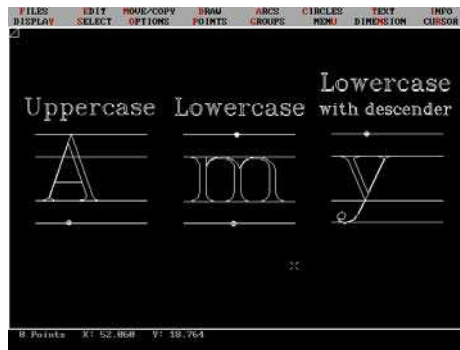

Figure 8
- 9. For uppercase letters, position the white crosshair on the Descender line (within the width of the letter) and set a point using the left mouse button or the “Insert” key on your keyboard. Without moving the crosshair, set another point *exactly* on top of the first and press the “V” key on the keyboard. This makes a point on the line. You will not see the point until the “lines” layer is turned off. This defines the bottom edge of the font. The letter itself defines the top edge. For lowercase letters *without* descenders, set 2 points on the top line (Height of uppercase letters) and press the “V” key. Then repeat with the bottom line (Descenders). For lowercase letters with descenders, it is not necessary to set the points on the bottom line as the letter itself defines the bottom edge. These two points identify the maximum height parameters of this font (from the top of the uppercase letters to the bottom of the descenders). Figure 8 displays these points enlarged in order to see them in the illustration.